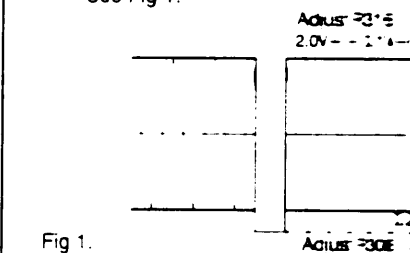

Fig 1.
- 2: Adjust the Sub contrast (R305) to set the drive voltage to 2.3V ± 0.1V. See Fig 1.